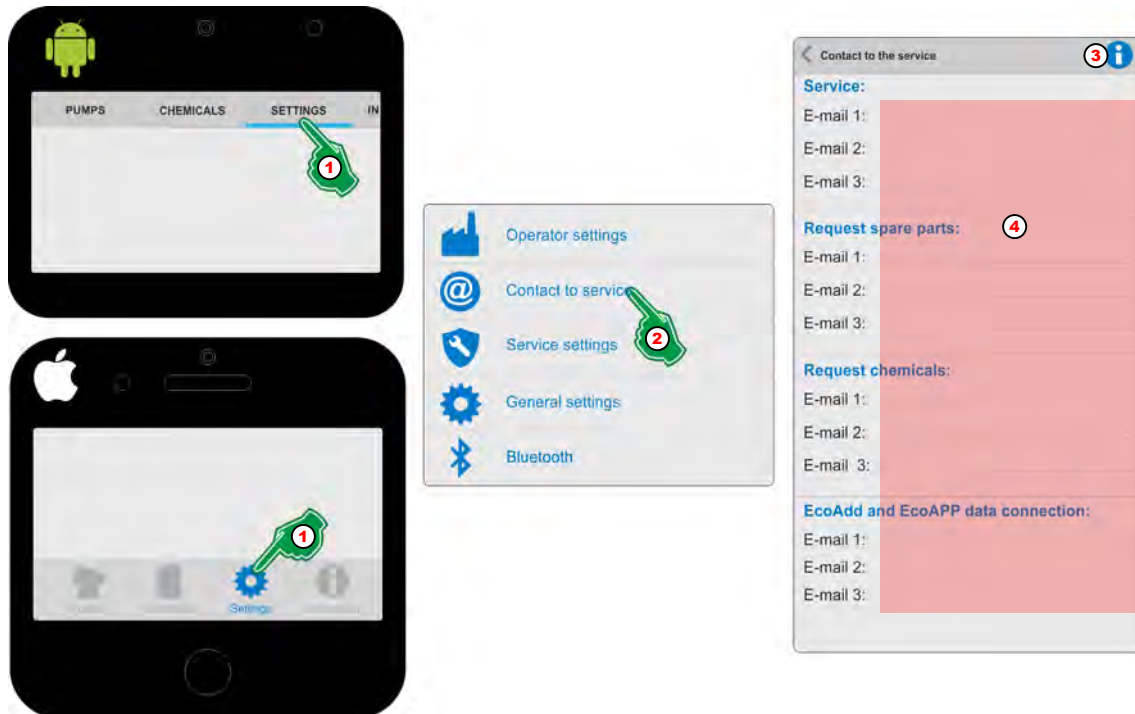

Fig. 43: Input the service contacts
1. Select [Settings] (Fig. 43, Pos. 1).
2. Select [Contact to service] (Fig. 43, Pos. 2).
3. With the selection of the [Info] ⓘ Symbol (Fig. 43, Pos. 3), the display will be:
4. Fill in all form fields (Fig. 43, Pos. 4).